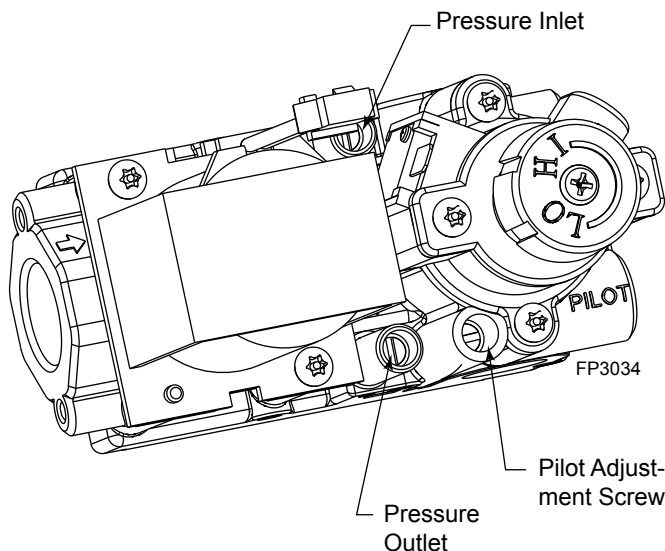

Figure 20 – IPI Valve
4. To check gas pressures at valve, turn captured screw counter clockwise 2 or 3 turns and then place tubing to pressure gauge over test point. Turn unit to high. *Figure 20.* After taking pressure reading, be sure and turn captured screw clockwise firmly to reseal. Do not over torque. Check test points for gas leaks.